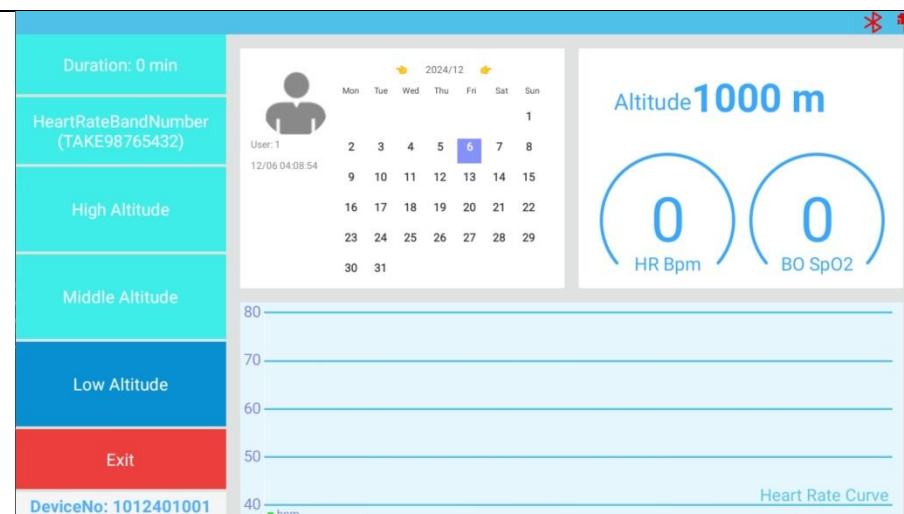

Figure 3
① After entering the trainer's information, click OK to start the training. After the training is completed, a report will be generated. If you click to ignore it, the training will be carried out directly. After the training is completed, the report will not be generated.
② After prompting that the boot is successful, the main interface of the training will automatically enter the main interface on the screen (Figure 3).
③ After entering the main interface of the training, you can see the function selection bar on the left, which can display the training duration, the heart rate arm number, and the choice of high, medium and low modes of altitude. The middle column is the basic information and calendar of the trainer, and the upper right is the real-time heart rate data collection display, real-time blood oxygen data collection, and real-time simulated altitude data. The lower sidebar is the real-time heart rate curve trend chart.